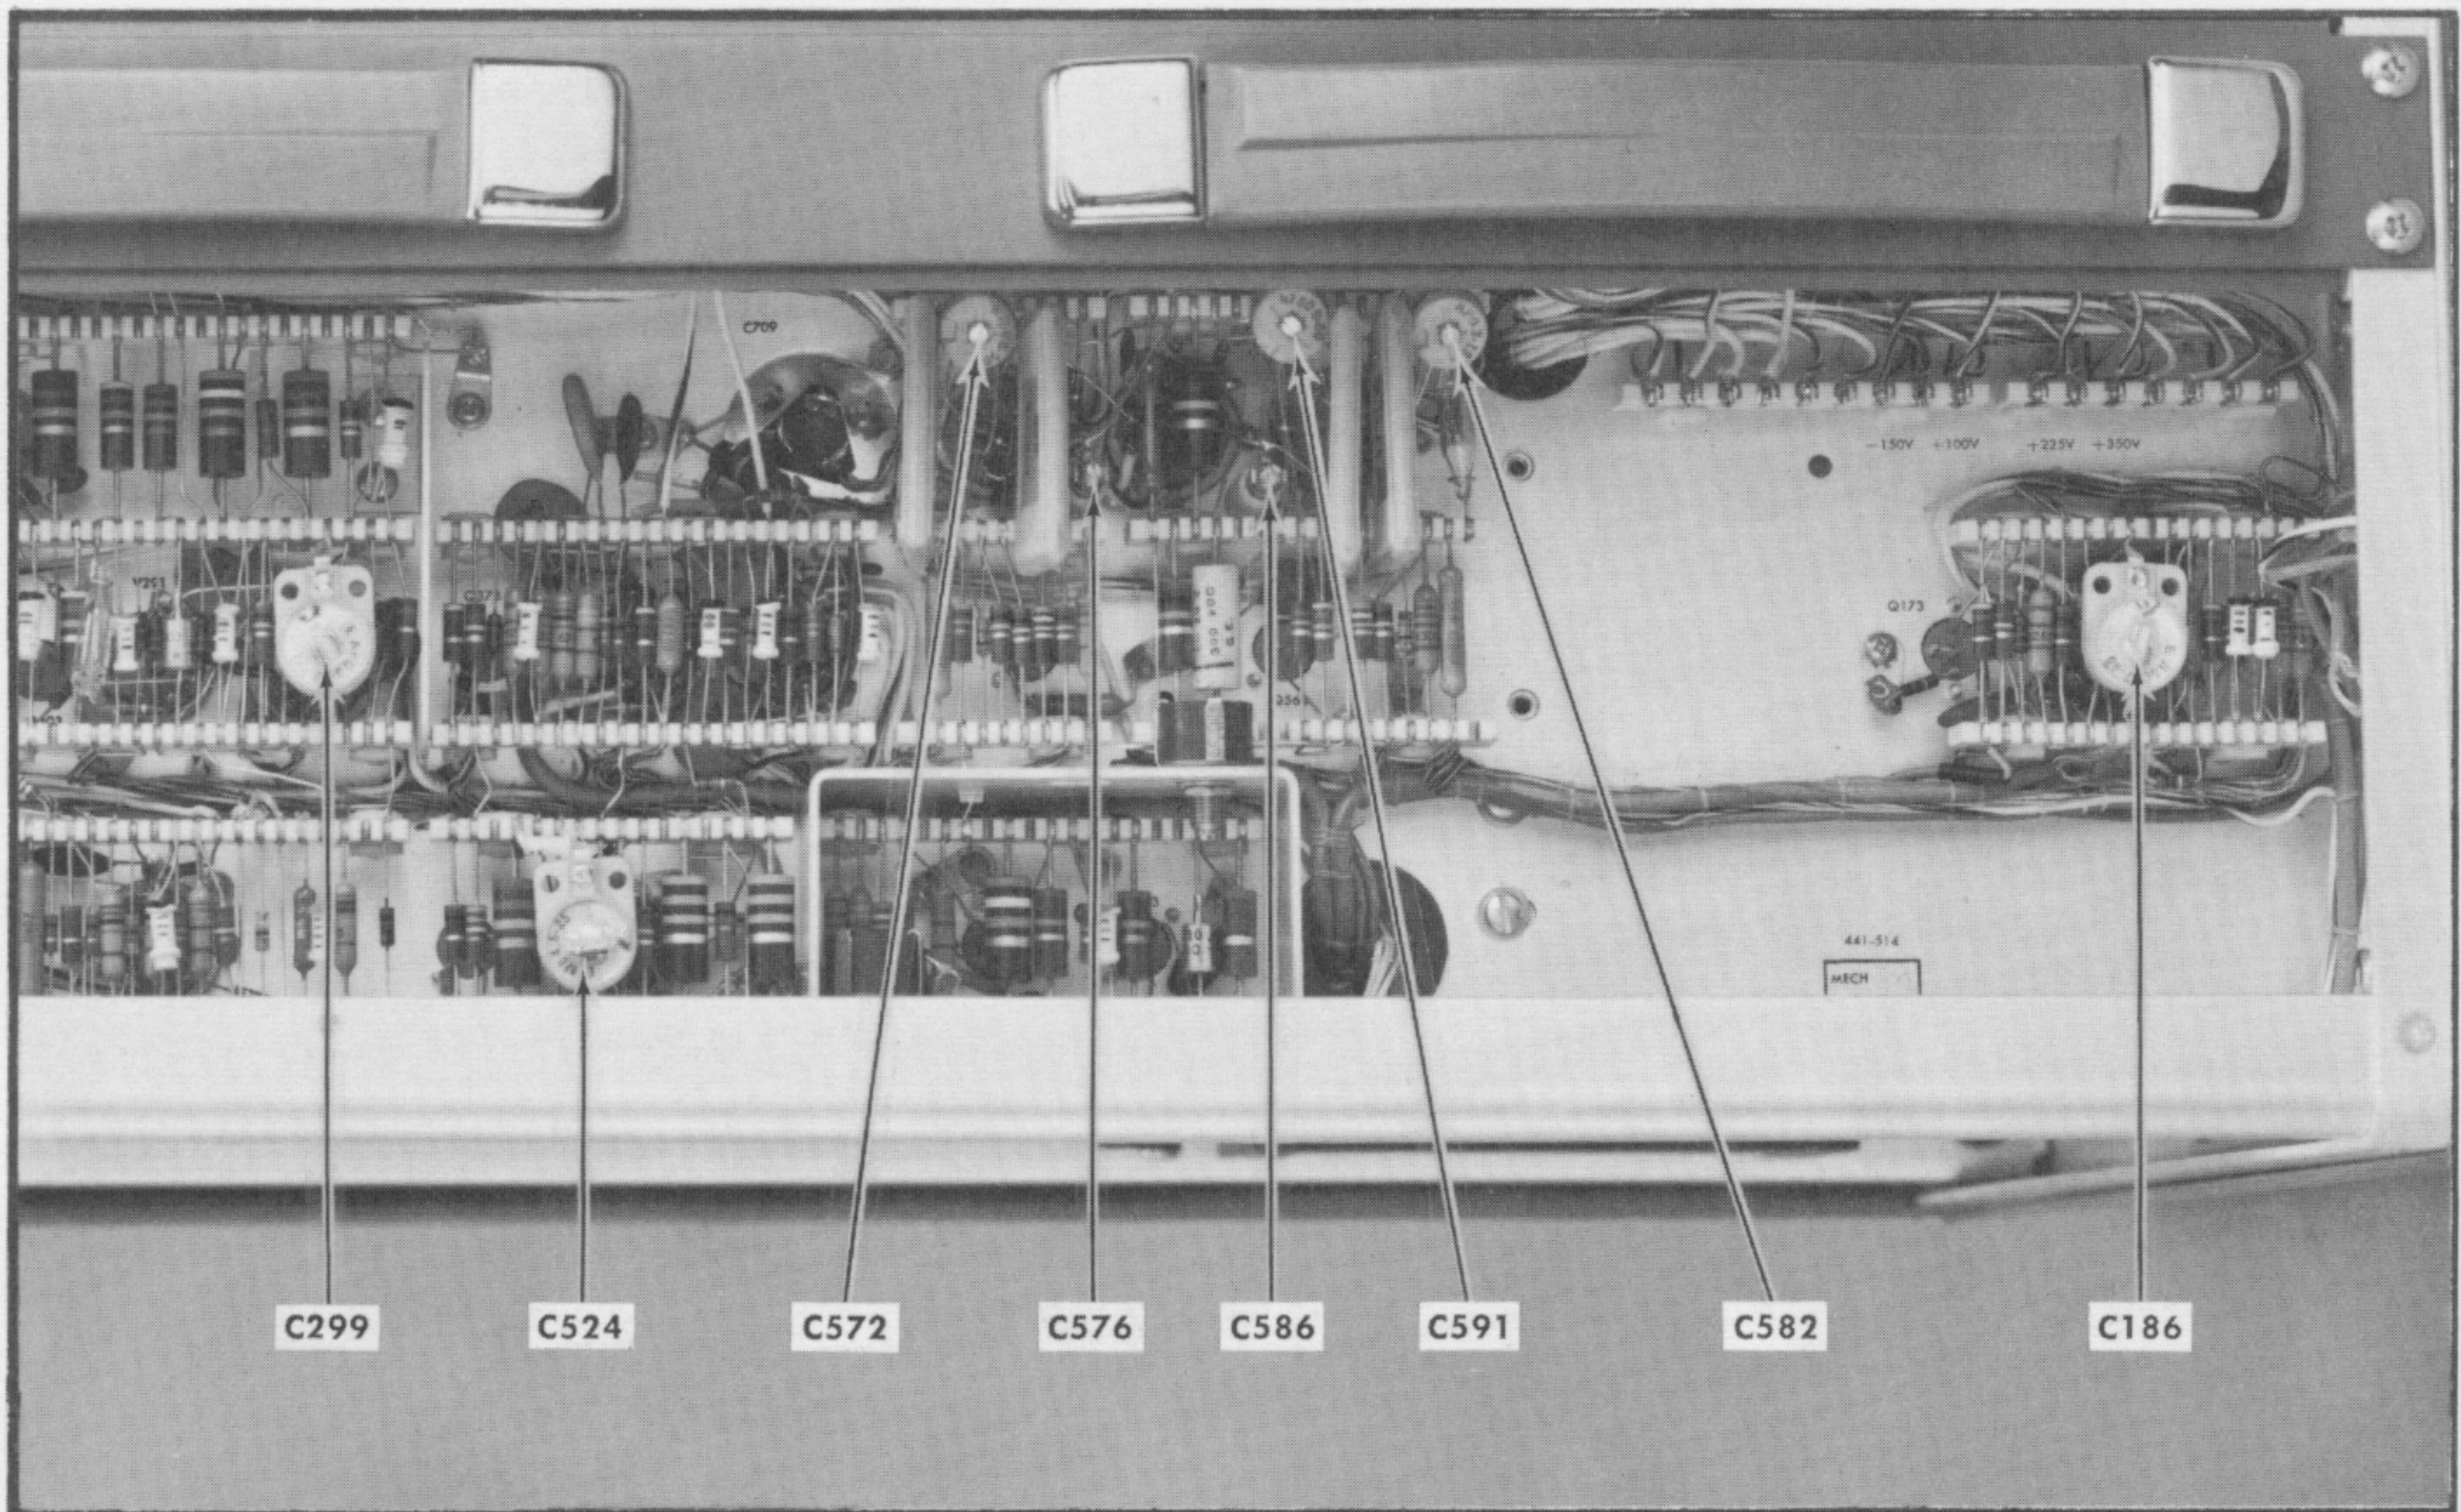

Fig. 5-10. Calibration adjustment locations (top right side view).
- d. Adjust C186 (see Fig. 5-10) so the starting portion of the B trace is the same brightness as the starting portion of the A trace.
- g. Check that C576 and C586 (see Fig. 5-10) slug-adjusting screws are about six turns above the metal wiper contacts of the capacitors.
- l. Adjust C572 and C582 (see Fig. 5-10) for maximum center sweep expansion. (Use a low-capacitance alignment tool when making the adjustments.)
Adjust C591 (see Fig. 5-10) for best display linearity of 1 cycle per 2 cm.